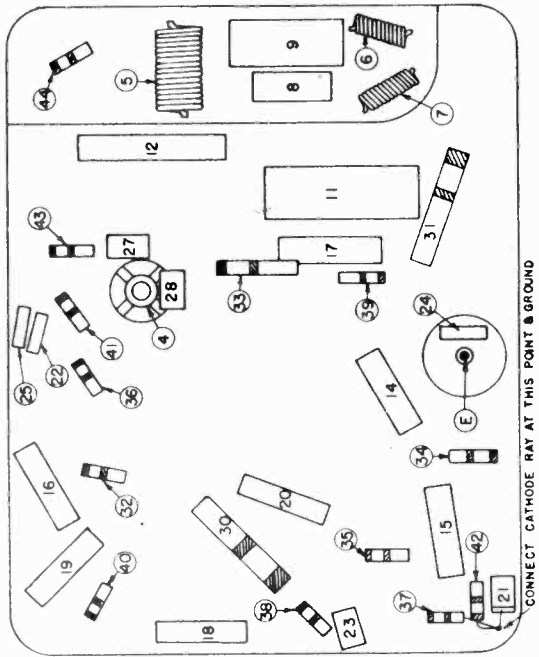
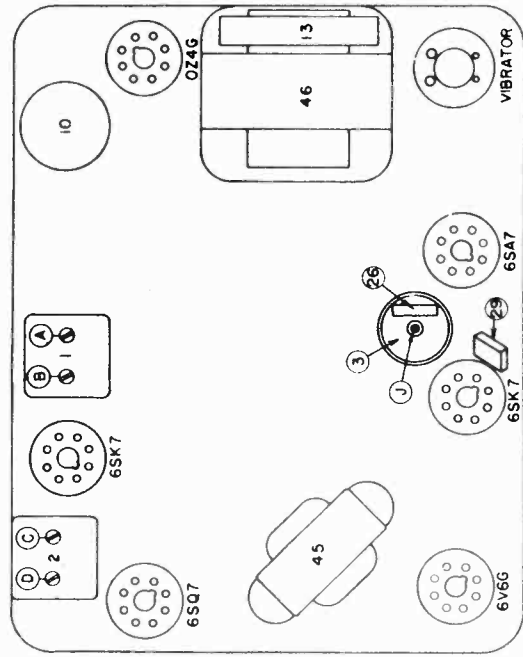

FIG. 4--PARTS LAYOUT--DASH UNIT--Bottom View
FIG. 3--PARTS LAYOUT--DASH UNIT--Top View
- (e) Adjust trimmers A-B-C-D (Fig. 3) and I.F. core adjustment "E" (Fig. 4) in the sequence named, until maximum output is obtained.
A Cathode Ray Oscilloscope should be used to check the I.F. band spread after completing the alignment procedure. Slight adjustment of the I.F. stages may be found necessary in order to obtain a symmetrical selectivity curve. Connect Cath. de Ray Oscilloscope as shown in Fig. 4.